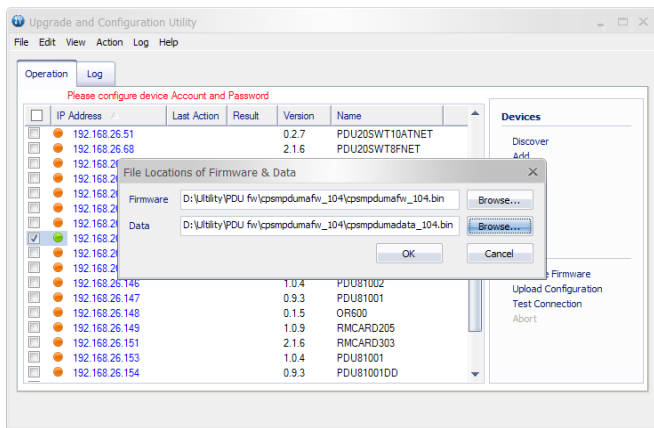

Figure 4
- Click **Browse** button and assigning the firmware file path in **Firmware** field (Shown in Figure 4).